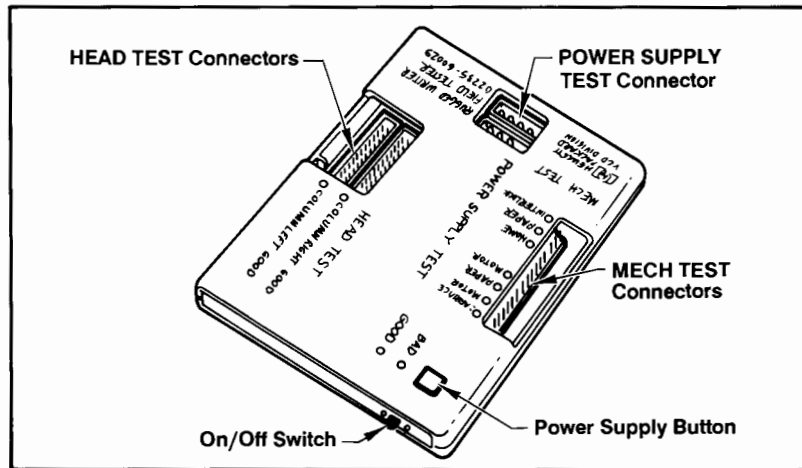

Figure 4-1. HP RuggedWriter 480 Test Fixture
1. Turn on the test fixture. The on/off switch is mounted on the side of the test fixture near the power supply button. See Figure 4-1.